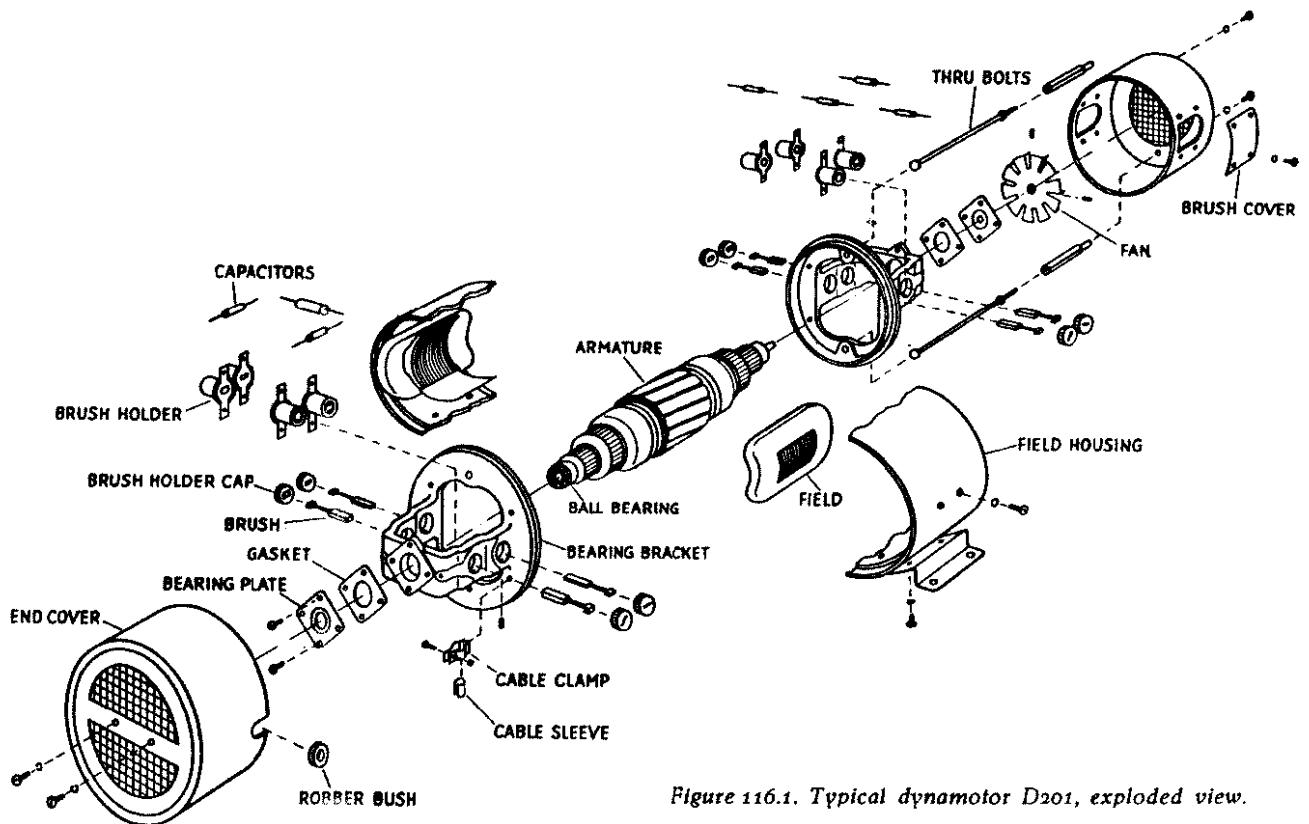

Figure 116.1. Typical dynamotor D201, exploded view.
- (2) Remove the four screws and nuts which hold the dynamotor to the chassis.
- (3) Gently pull the dynamotor up off the chassis.
- c. Remove the screws which hold the front and rear covers to the dynamotor. Remove the covers (fig. 116.1).